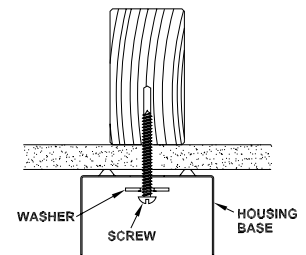

Fig. 5
Insert (2) #8 or #10 AB screws (purchased separately) through 7/8" minimum dia. washers (purchased separately) and the housing into each of the drilled holes to secure the housing to the ceiling. **See Figure 5.**
Insérer (2) vis de calibre 8 ou 10 dans des rondelles de 7/8 po dia. minimum (achetés séparément) et dans les trous du boîtier afin de le fixer au plafond. **Voir la figure 5.**